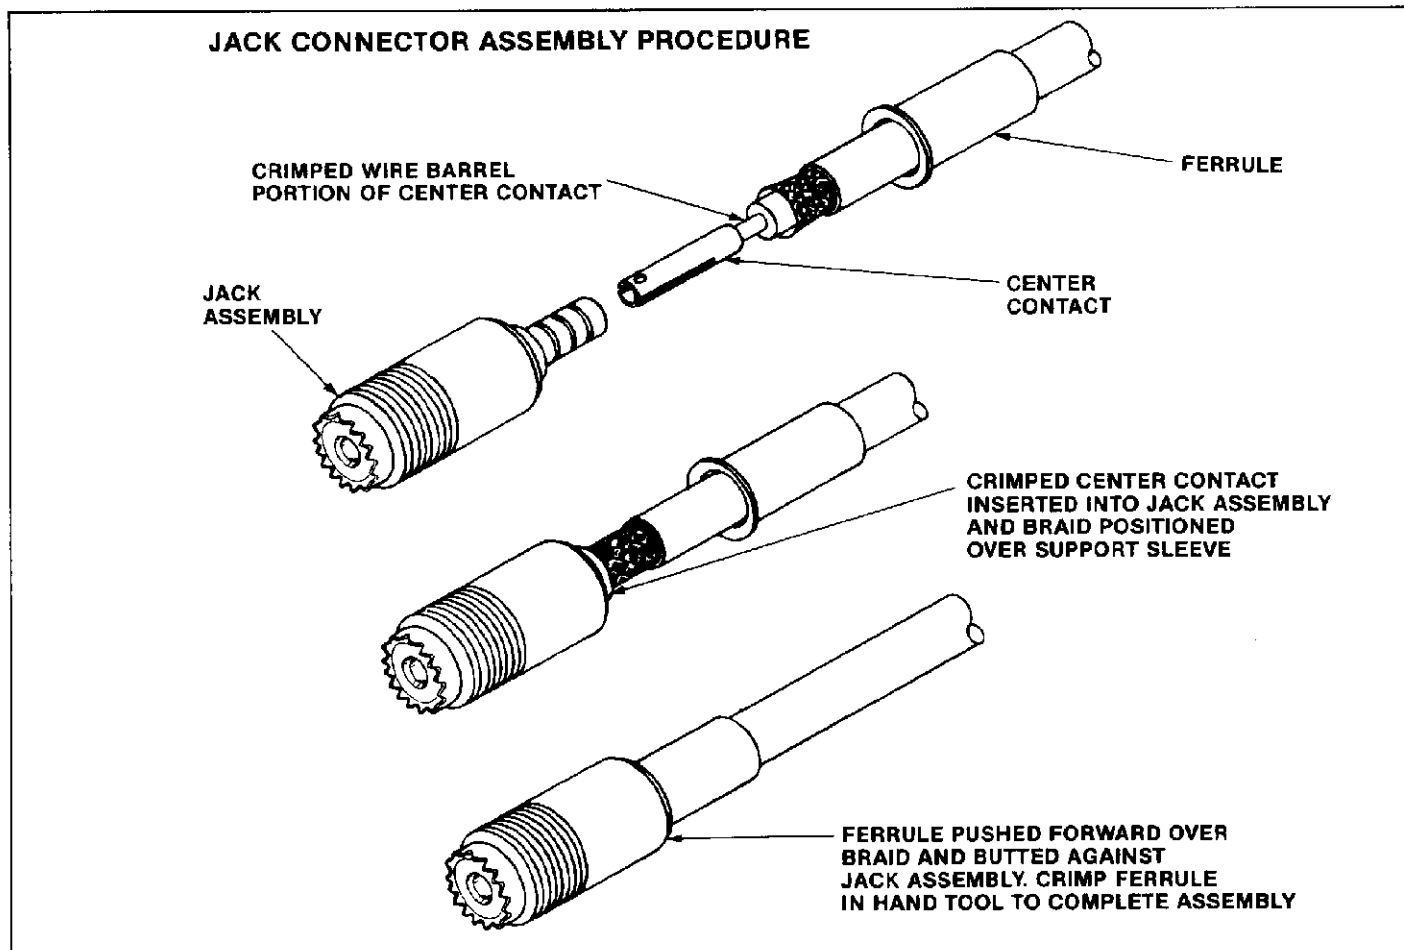

Fig. 3
3. Insert crimped center contact into jack assembly with braid over support sleeve of jack assembly. See Figure 3.